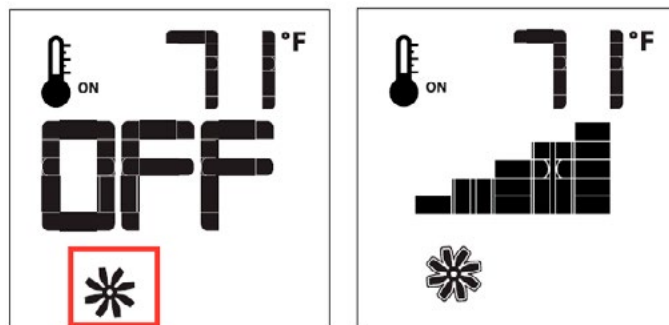

Figure 27.m Fan Speed Control
The fireplace is equipped with optional hot air circulating fans. The speed of the fans can be controlled by the Proflame system. The fan speed can be adjusted through six (6) speeds. To activate this function use the Mode Key, see Figure 27, to index to the fan control icon, see Figure 27m. Use the Up/Down Arrow Keys to turn on, off, or adjust the fan speed. A single "beep" will confirm reception of the command.